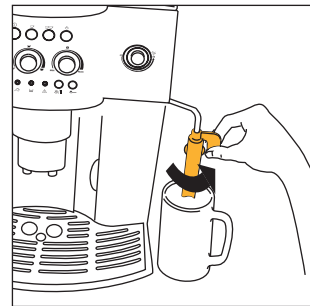

Fig.3
2. Move the milk frother towards the outside and place a cup underneath (Fig.3). Then turn the machine on by pressing the  button (Fig.4).
- Turn the milk frother towards the outside of the machine (Fig. 3).
- Position a container underneath the milk frother (Fig. 3).
- Move the milk frother towards the outside (Fig. 3).